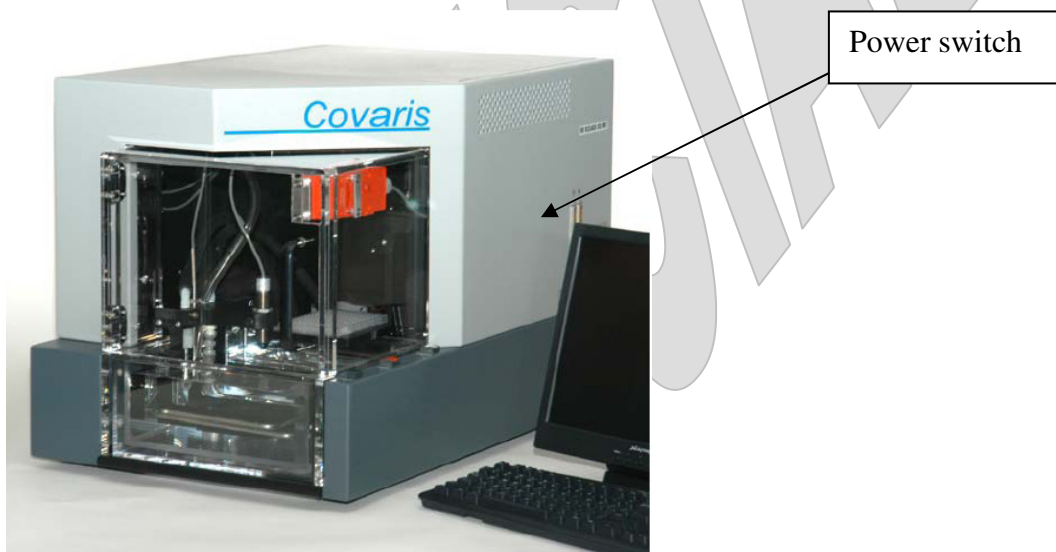

Figure 1: Covaris E-series
- 1.3. Start the E210 by setting the power switch located on the right of the instrument to the "1" position. Do not start the chiller bath. See Figure 1.